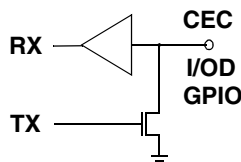

Figure 3. Typical μC I/OD Driver
The Consumer Electronics Control (CEC) line is a high level command and control protocol, based on a single wire multidrop open drain communication bus running at approximately 1kHz (See Figure 3). While the HDMI link provides only a single point-to-point connection, up to ten (10) CEC devices may reside on the bus, and